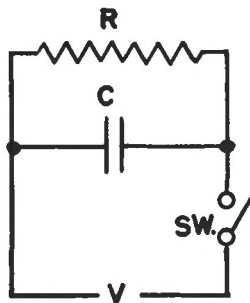
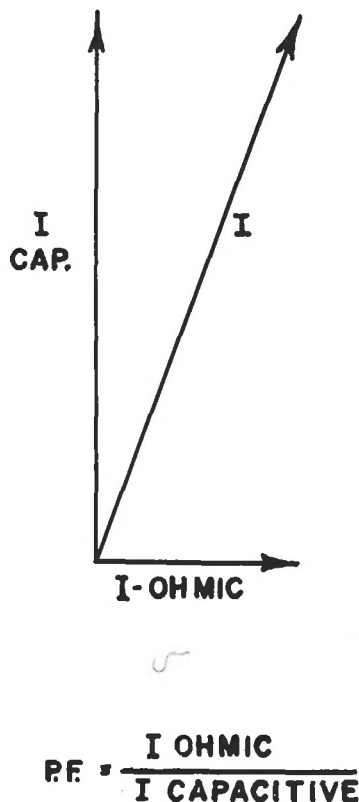

Figure 1
Figure 2
Liquid and solid materials are broadly divided into classes according to their ability to conduct electricity. To be specific, when we measure the resistance of a number of liquid and solid materials between two metal plates each 1 inch square and separated by 1 inch (see Figure 1), we find most metals and acids are relatively good conductors of electricity while mineral oil, glass, wood, rubber and plastics are relatively poor conductors. The resistance of a sample having the aforementioned dimensions is called *resistivity* and is measured by a special unit called ohm-inches.
Consider next the currents that flow through the block of insulation shown in Figure 1 when voltage V is suddenly applied by closing the switch. If V is a d-c voltage, there is a rush of charging current which gradually decays to some steady value determined by the resistivity of the material and the applied voltage. However, when a-c voltage is applied, although most of the current leads the voltage by 90° ($I_{\text{capacitive}}$), a small but measurable current component is in phase with the voltage (I_{ohmic}). The vector diagram of Figure 2 represents these two currents.
* The "apparent power" or "volt-amperes" drawn by a circuit containing both resistance and reactance (as in Fig. 1) is obtained by multiplying the voltage across the circuit by the total current drawn without regard to their relative phases. Actually, power is consumed in the resistor only; the "power" in the capacitor being simply transferred back and forth between the source and the capacitor. Therefore, we define the power factor as the ratio of the actual power consumed by the resistor (which appears as heat) to the apparent power drawn by both resistor and capacitor.
Suppose we measure the capacity of the condenser of Figure 1 first with a solid insulation between the plates and then with just air between the plates. The capacitance obtained with the solid insulation divided by the capacitance obtained with air insulation gives us the dielectric constant. In this way, the *K* of air is always 1. The *K* of the so-called "high-*K*" materials like barium titanate may have a value of more than 1000 (see Table I).